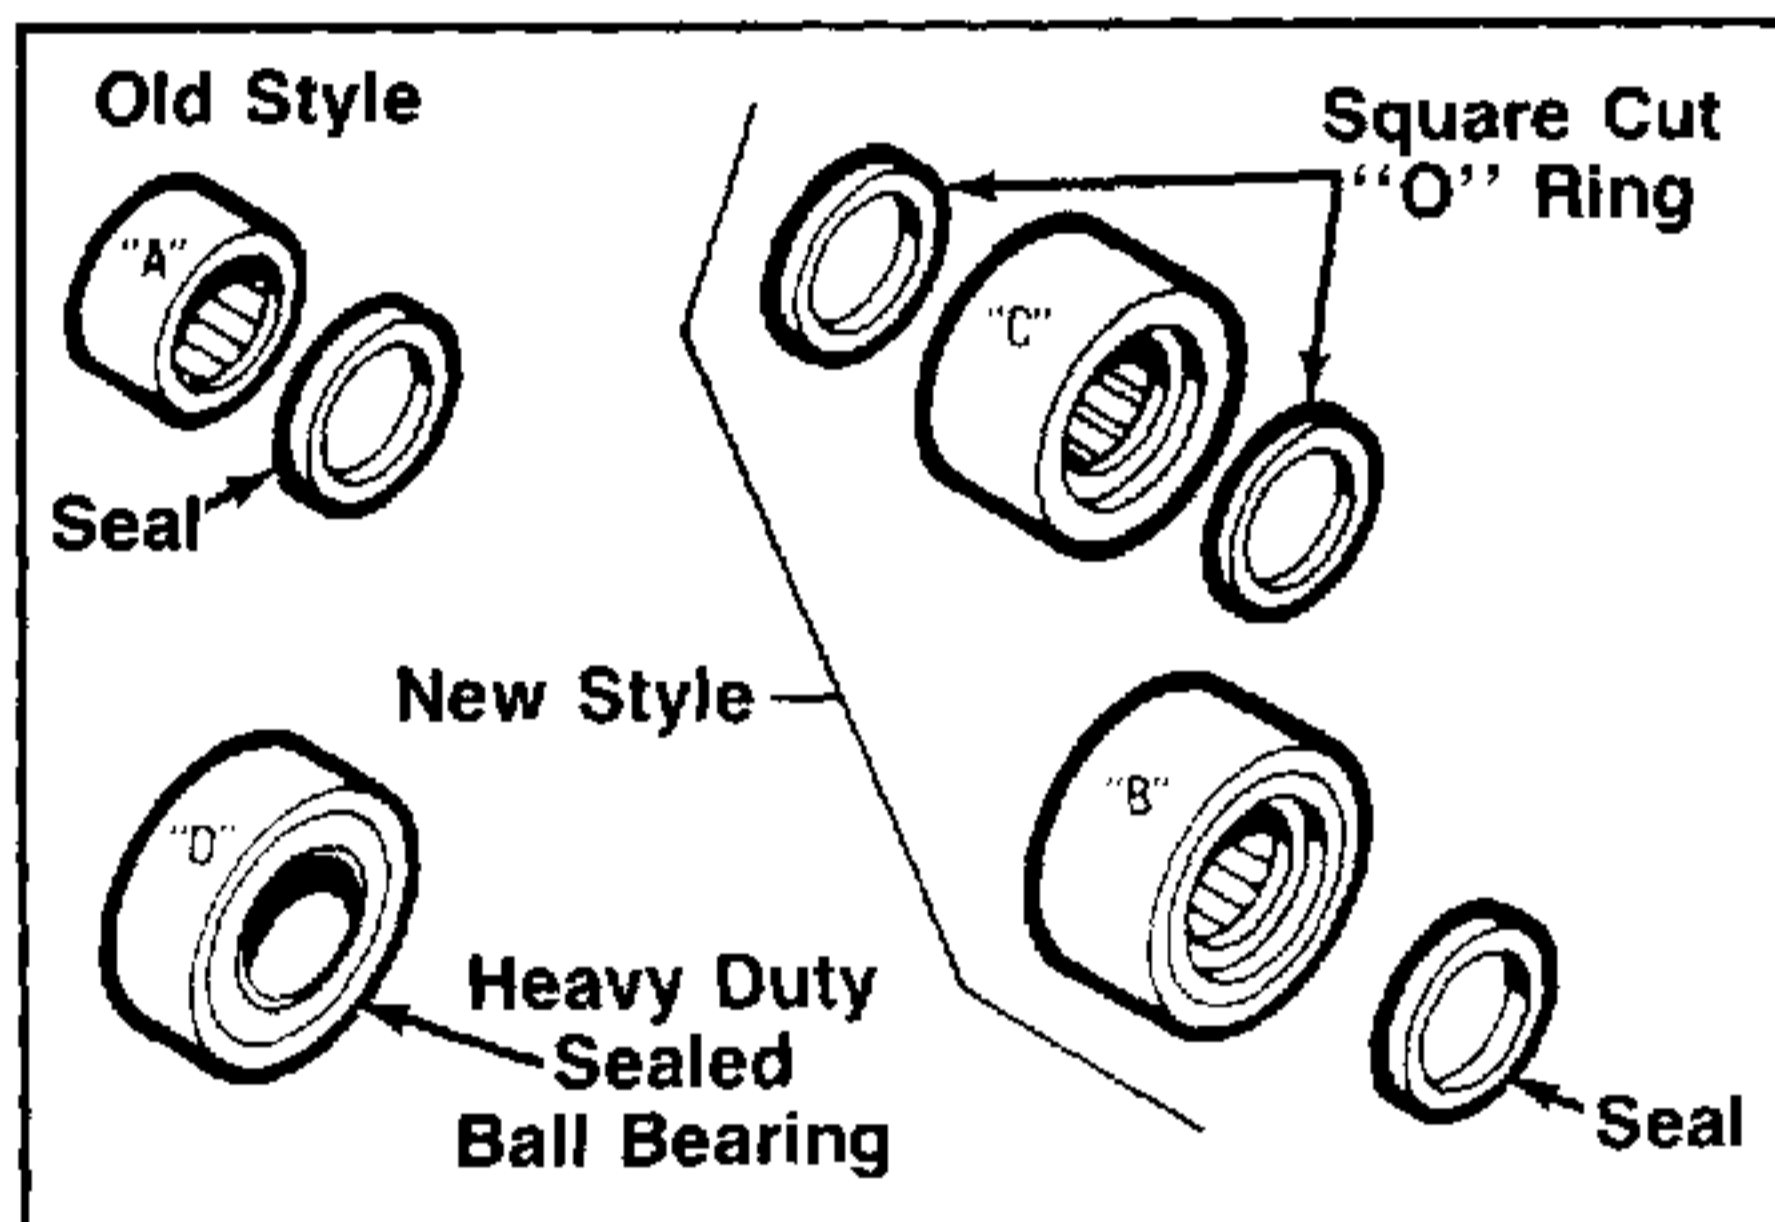

FIGURE 20.
9. Remove differential from case. Remove seals (2), needle bearings or ball bearings (2), flanged bushings (2) and thrust washer. See figures 20 and 21.
The 800 Series has used 4 styles of bearings on the axles. The earliest style "A" was a smaller loose cage needle bearing and must have the seal to the outside of that bearing. Style "B" must have the seal to the outside of the bearing. When bearing style "C" is used, a square cut "O" ring must be used on each side of the bearing. Bearing style "D" is a sealed ball bearing used in H.D. application. Styles "B," "C" and "D" are interchangeable. All needle bearings must be repacked with grease. See figure 20.